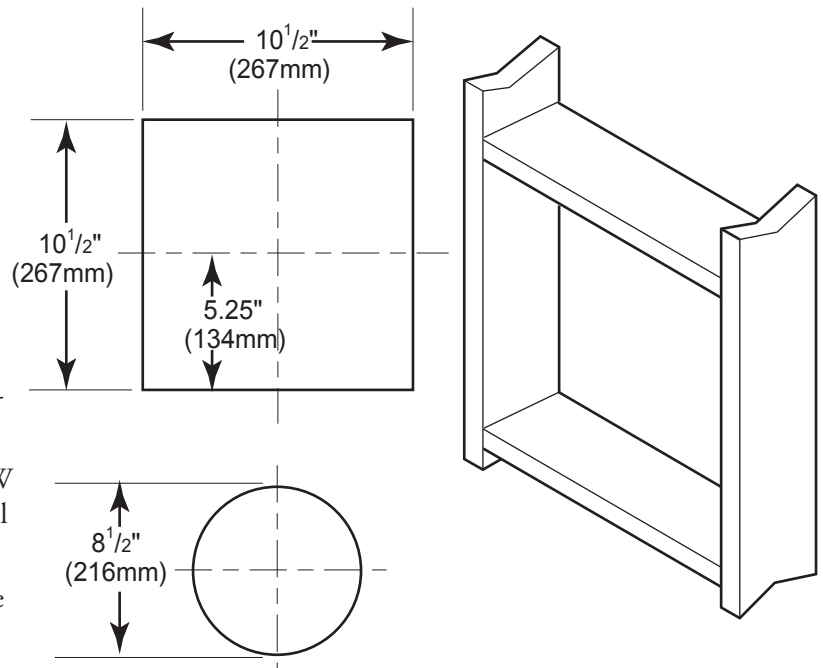
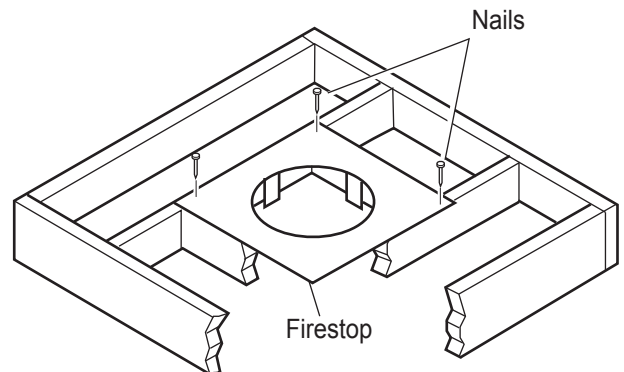
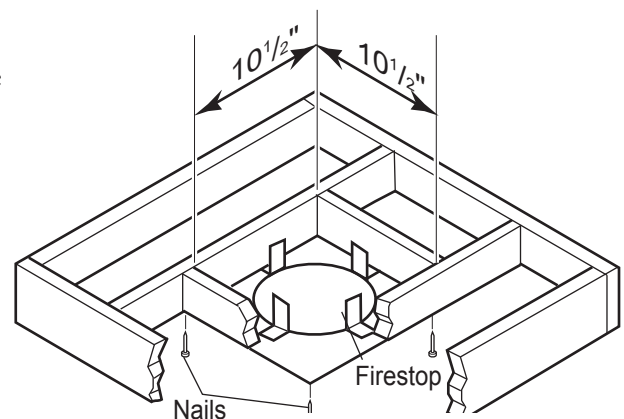

Figure 12 - Vent Opening Requirements
Figure 28- If area above is a room, install firestop above framed hole as shown
Figure 29 - If area above is not a room, install firestop below framed hole as shown
Combustible Walls: Cut a 10½"H x 10½" W (267mm x 267mm) hole through the exterior wall and frame as shown. See Figure 12.
1. Establish vent hole through the wall. *See Figure 12, page 17.*
1. Cut a $10\frac{1}{2}$ " (267mm) square hole in the ceiling using the locating hole as a center point. The opening should be framed to $10\frac{1}{2}$ "x $10\frac{1}{2}$ " (267mm x 267mm) inside dimensions as shown in Figure 12, page 17 using framing lumber the same size as the ceiling joist. If the area above the ceiling is an insulated ceiling or a room, nail firestop from the top side. This prevents loose insulation from falling into the required clearance space. See Figure 28. Otherwise, install firestop below the framed hole. The firestop should be installed with no less than three nails per side. See Figure 29.